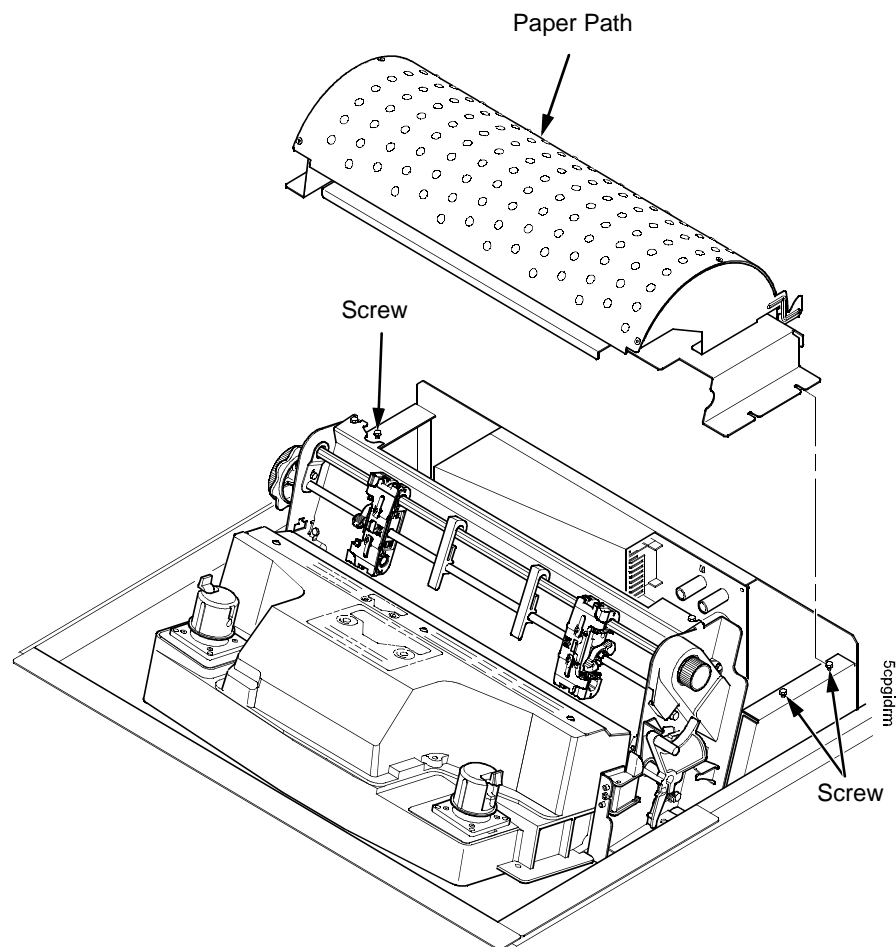

Figure 71. Remove the Paper Path
4. Loosen—do not remove—the three paper path hold-down screws. Slide the paper path to the left and lift it off the card cage. (Figure 71.)